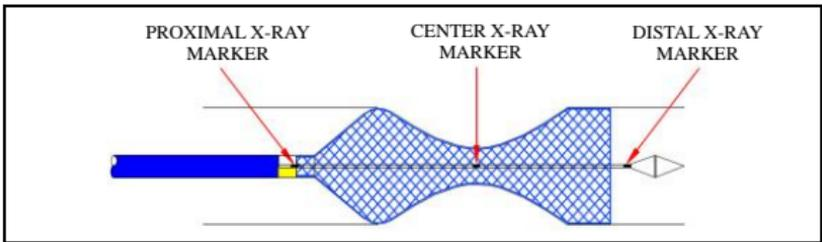

**Figure 4**
- d) When the center X-ray marker reaches the center of target stricture, continue pulling back on the connector until the stent is fully deployed. (See figure 4, 5)
- d) When the center X-ray marker reaches the center of target stricture, continue forwarding toward the connector until the stent is fully deployed. (See figure 4, 6)